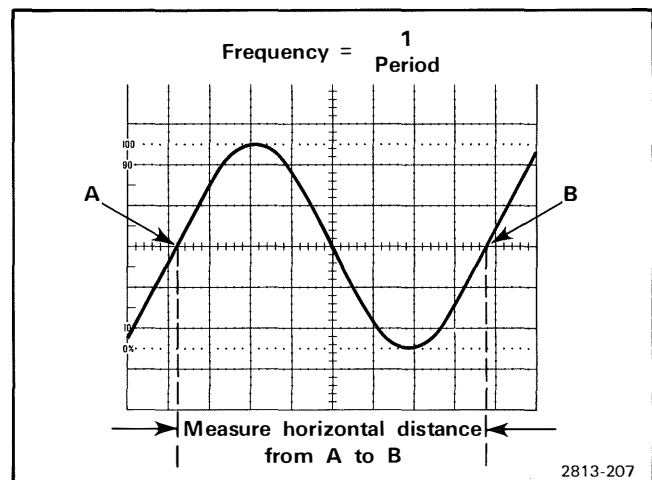

Figure 2-7. Measuring the period and calculating the frequency of a displayed waveform.
6. Set the TIME/DIV and POSITION controls for a complete cycle displayed within the center eight graticule divisions as shown in Figure 2-7.
Example: Assume that the horizontal distance over one complete cycle is seven divisions, and the TIME/DIV control setting is 0.1 ms (see Fig. 2-7).